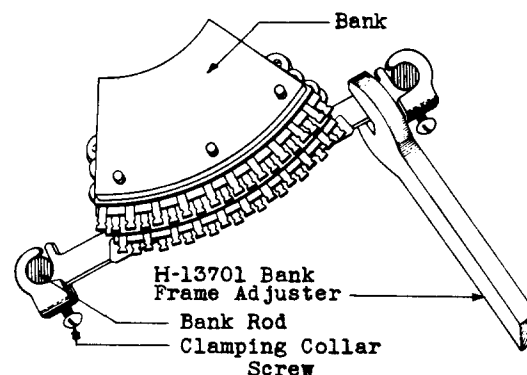

Fig. 19 — Adjusting Angle of Bank With Reference to Bank Rods
(1) If the plane of the lower surface of the bank is not approximately at right angles with the rods on which it is mounted, or if the space between adjacent banks is not approximately equal, loosen the clamping collar screws slightly with the KS-2631 screwdriver and place the end of the No. 405A bumper against that part of the bank that engages the mounting rod and tap it gently up or down as required with the 4-ounce riveting hammer.
(2) If the plane of the lower surface of the bank is at approximately right angles to the rods laterally, but the bank is tilted either up or down from front to rear, adjust the bank up or down as required with the H-13701 bank frame adjuster as shown in Fig. 19.
(3) If the plunger rollers do not engage the upper and lower bank springs at approximately the same time, or if the plunger tip binds as it enters the bank or has an appreciable tension against the upper or lower side of the slot, it may be necessary to adjust the bank up or down with the H-13701 bank frame adjuster as shown in Fig. 19. Also note the condition of the plunger tip. If it is bent, adjust it as described in procedure 3.05.